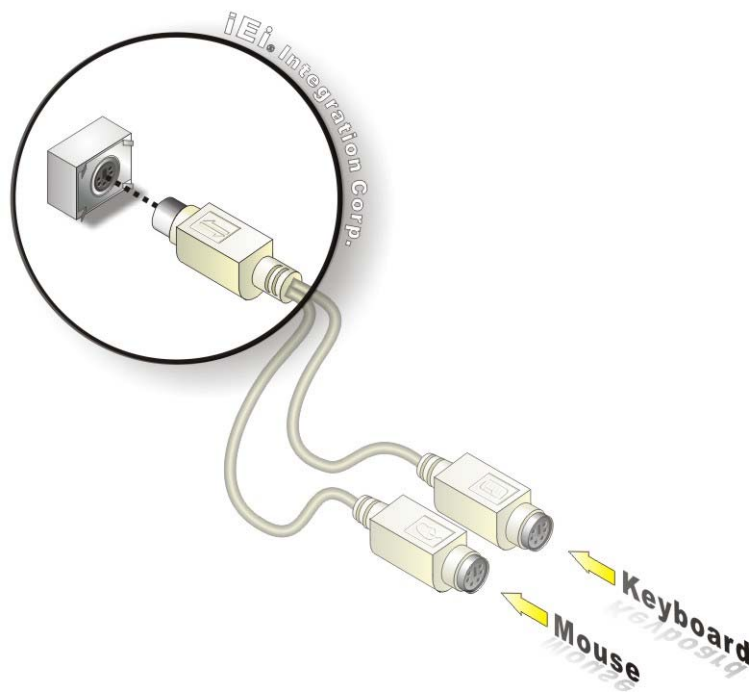

Figure 4-15: PS/2 Keyboard/Mouse Connector
Step 2: Insert the keyboard/mouse connector. Insert the PS/2 connector on the end of the PS/2 Y-cable into the external PS/2 connector. See Figure 4-15.